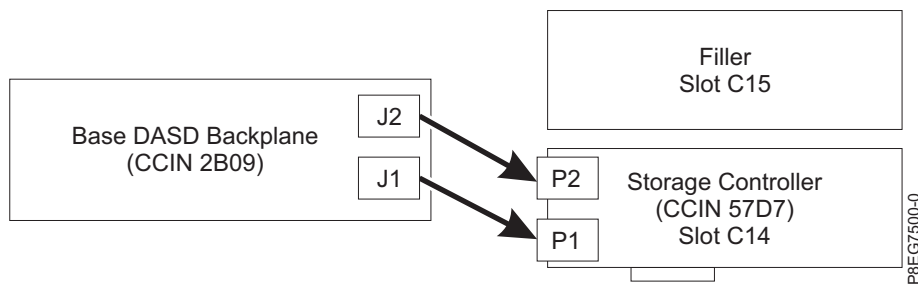

Figure 9. Reconnecting the SAS cable in a base-storage configuration
- If you have one PCIe3 x8 SAS RAID internal adapter (CCIN 57D7) in slot P1-C14 (base-storage feature), a SAS cable connects the lower disk drive backplane connector (J1) to the P1 connector on the adapter and another SAS cable connects the upper disk drive backplane connector (J2) to the P2 connector on the same adapter. See Figure 9.